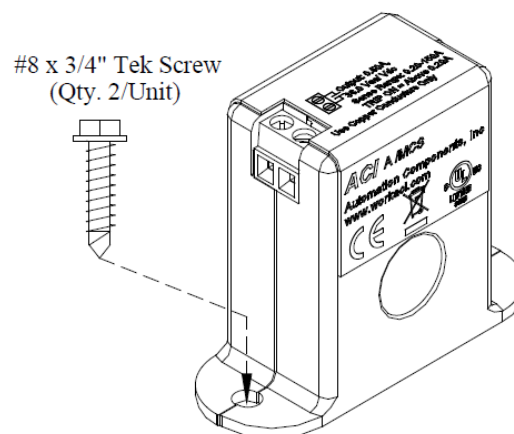

Figure 2
Make sure that all installations are in compliance with all national and local electrical codes. Only qualified individuals that are familiar with codes, standards, and proper safety procedures for high-voltage installations should attempt installation. The current switches will not require external power, since the power for the current switch is induced from the conductor being monitored. The A/MCS and A/MSCS Current Switches should be used on Insulated Conductors Only! The current switch may be mounted in any position using the (2) #8 x 3/4” Tek screws and the mounting holes in the base (see Figure 2). Leave a minimum distance of 1” (3 cm) between the current switch and any other magnetic devices such as contactors and transformers.